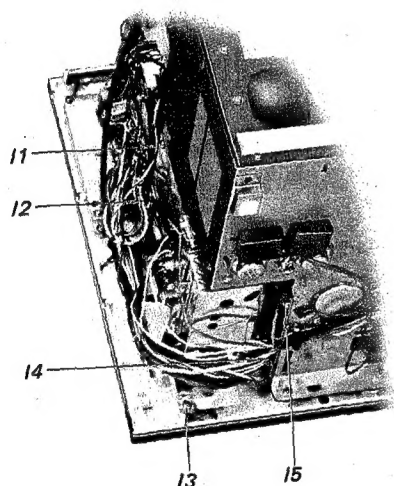

Fig. 2-11.
3. Remove the five screws labeled I1 ~ I5 in Fig. 2-11.